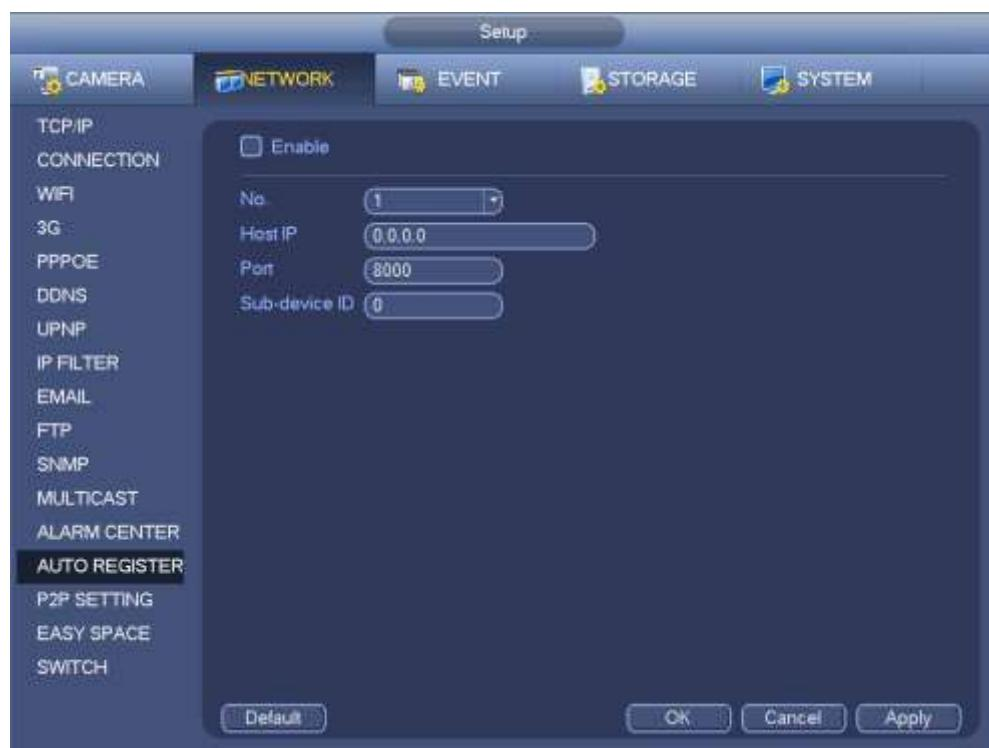

Figure 4-181
1) The setup interface is shown as in Figure 4-181.
- 3) Now you can add device. Please do not input default port number such as the TCP port in the mapping port number. The device ID here shall be the same with the ID you input in Figure 4-181. Click Add button to complete the setup.